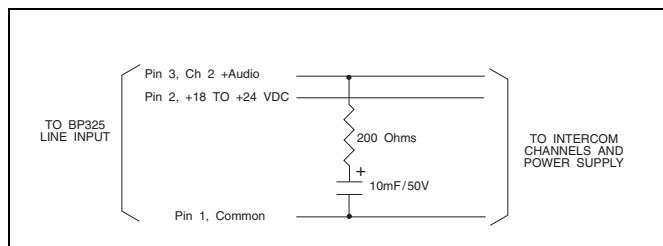

FIGURE 1. LINE INPUT Connector Wiring for 1-Channel Operation with Non-RTS Power Supply
Several internal option switches and jumpers can modify the belt pack's operation. The factory settings are summarized below. To change any of the factory settings, remove the rear cover screws as shown in Figure 1. Jumper and switch locations are shown on the label inside the rear cover.
1. Referring to Figure 1, remove all three screws (10a and 10b) on the back connector panel of the BP325. Remove the rear cover/belt clip assembly.